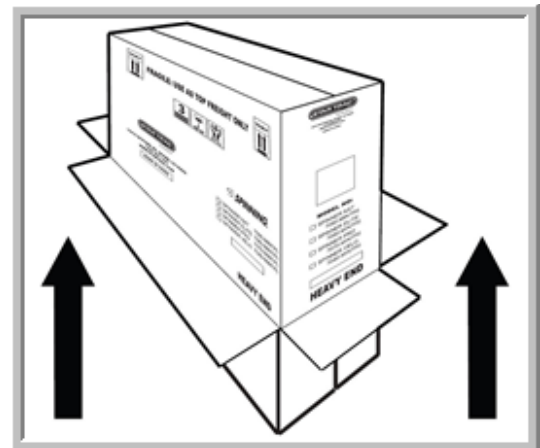

Fig. 3
3. Expose the packaged bike by pulling the box up (Fig.3).